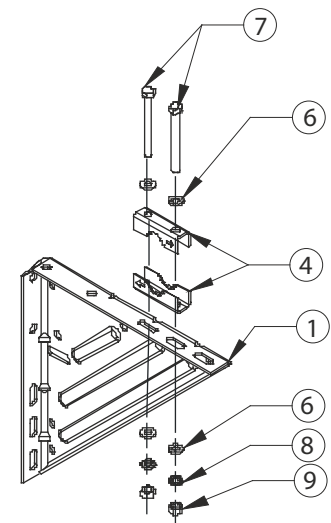

Figure 5
6. Install saddle clamps at both ends of door shaft as shown in Figure 5 and securely tighten saddle clamps to headplates.